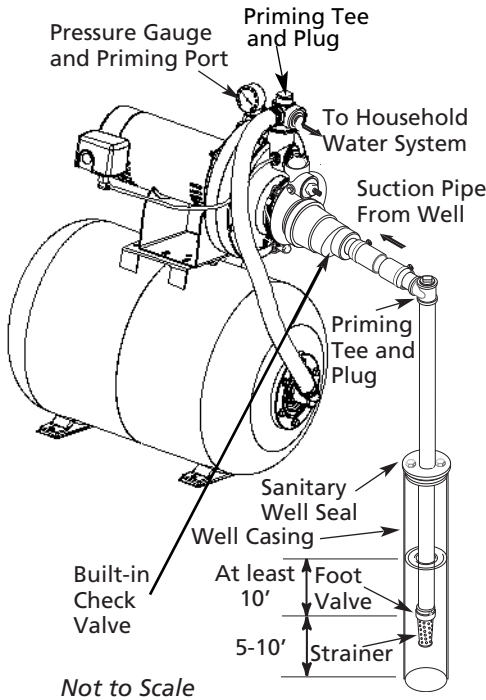

Figure 6 - Cased Well Installation
NEW SHALLOW WELL, DRIVEN POINT INSTALLATION (SEE FIGURE 6)
CASED WELL INSTALLATION, 2" OR LARGER CASING (FIGURE 6)
3. Assemble the foot valve, strainer, and well pipe (See Figure 6). Make sure that the foot valve works freely.
5. Install a priming tee, priming plug, and suction pipe to the pump (See Figure 6). Connect the pipe from the well to the pump suction port, using